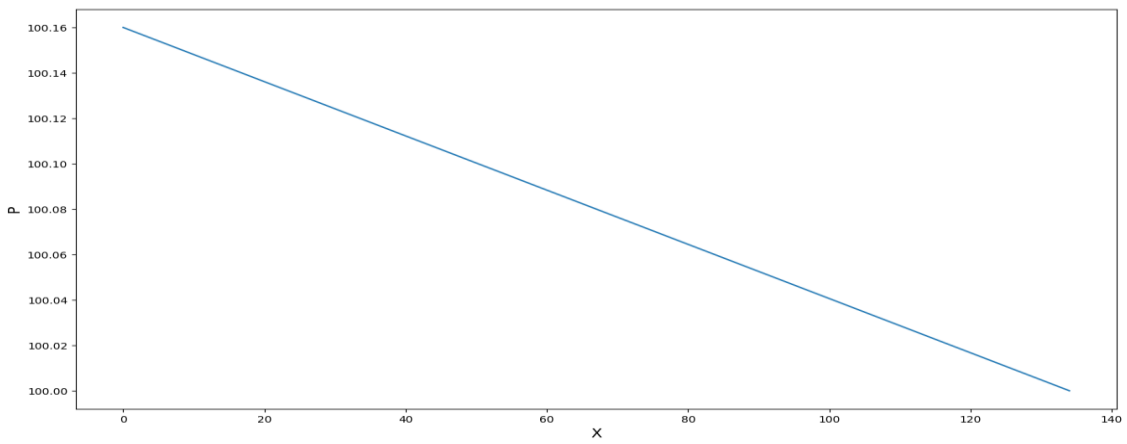

Figure 4: Pressure profile with Y at mid-x at steady state
- Figure 4. Shows linear drop of pressure along x axis